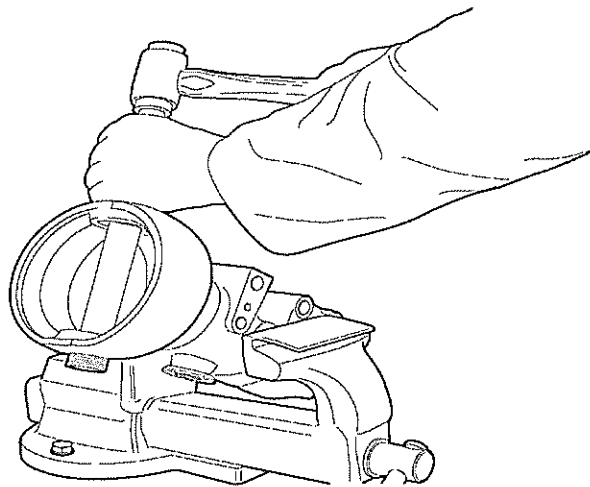

Fig 17 Replacing portal hub pivot bushes
15.3 Clamp swivel housing in area of shock absorber mounting and drive out bushes with suitable drift (see Fig 17).